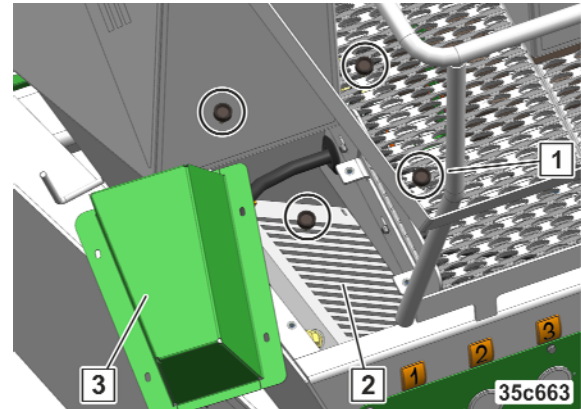

Fig. 273
2. Clean the fan suction protective screen (Fig. 273/3).
3. Loosen and remove all of the knurled nuts (Fig. 273/1).
5. Clean the heat exchanger (Fig. 273/2).